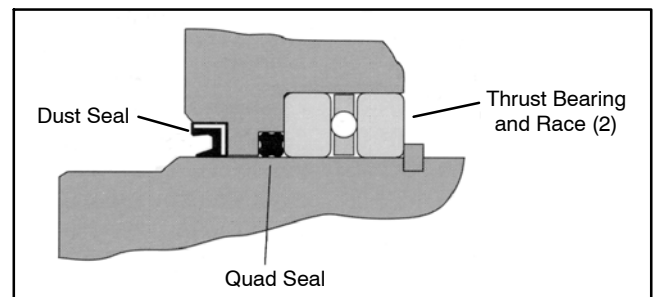

Figure 79
8. Put the thrust bearing and races into the housing. The thrust bearing goes between the two races (Fig. 79).